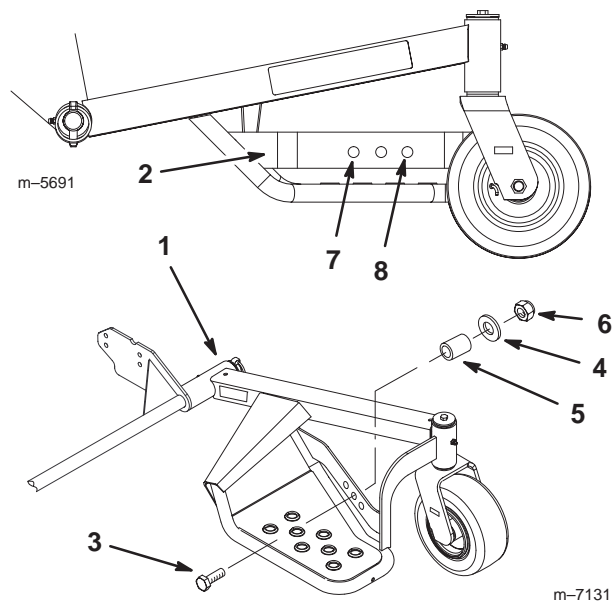

Figure 13
The sulky transport position can be raised or lowered by using the three different holes in the sulky side support (Fig. 13).
1. Remove the nut (5/16 inch), small washer, spacer, lanyard and bolt (5/16 x 1-1/4 inch) from the sulky side support (Fig. 13).
2. Select different hole in the sulky side support (Fig. 13).
3. Install the nut (5/16 inch), small washer, spacer, lanyard and bolt (5/16 x 1-1/4 inch) into the desired hole (Fig. 13).